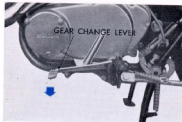

Fig. 10
1. Pull in the clutch lever and change gears by moving the change lever up or down. (Fig. 10)